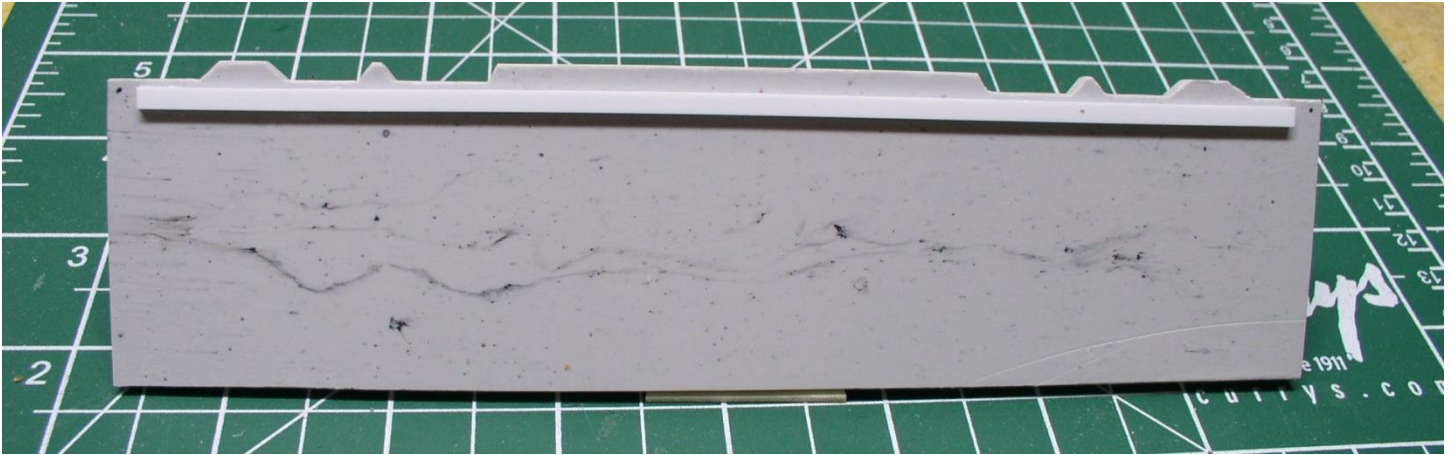

Figure B10
10. Mark a line on the inside of the side 2.5 scale inches away from the undercuts of the bottom of each side. Glue plastic strips along the lines marked. This will set the underframe the correct height. See Figure B10.
10. There are holes to locate where the end grab irons should go. You may have to file/grind out the underside of the brackets of the grab iron. If necessary, drill a 0.020" holes where the tabs will go. Test fit and glue end grab irons in place. See Figure B10.